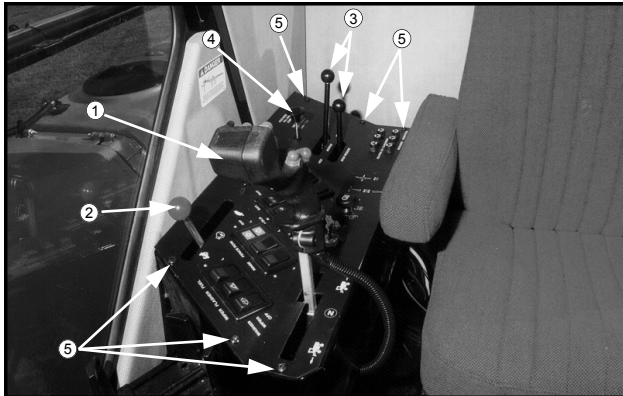

FIG 8.36
To access the circuit breakers remove the hydrostatic handle (fig. 8.36, item 1), engine throttle knob (fig. 8.36, item 2), VFC lever knobs (fig. 8.36, item 3), four wheel drive knob (fig. 8.36, item 4), and panel screws (fig. 8.36, item 5).
knob (fig. 8.36, item 2), VFC lever knobs (fig. 8.36, item 3), four wheel drive knob (fig. 8.36, item 4), and panel screws (fig. 8.36, item 5). The circuit breakers are located toward the rear of the console. If a circuit breaker does not reset and continues to trip, determine the cause and correct it.